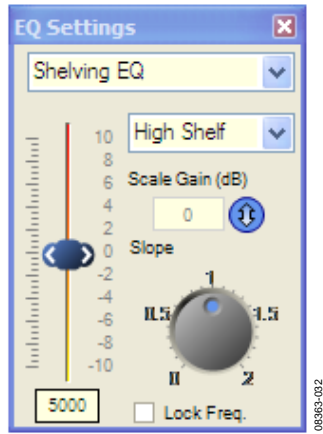

Figure 32. Filter Parameters
- Configure the filter parameters for each band, as desired (see Figure 32).